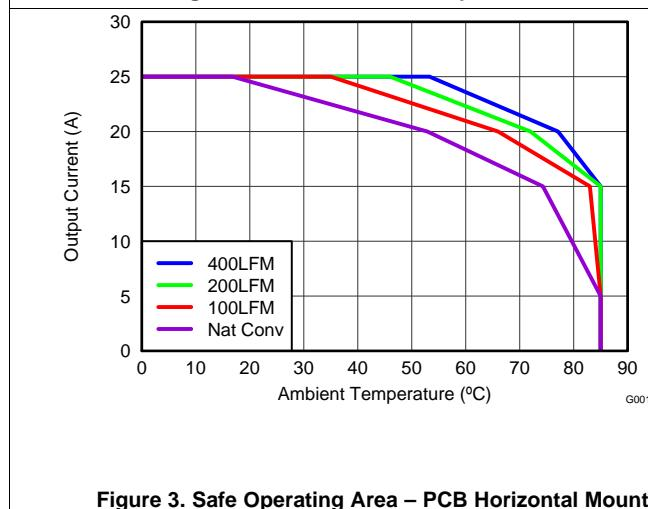

Figure 3. Safe Operating Area – PCB Horizontal Mount
(1) Specified by design
$T_J = 125^{\circ}\text{C}$, unless stated otherwise. The Typical Power Block System Characteristic curves Figure 3 and Figure 4 are based on measurements made on a PCB design with dimensions of 4.0 inches (W) \times 3.5 inches (L) \times 0.062 inch (H) and 6 copper layers of 1 oz. copper thickness. See Application and Implementation for detailed explanation.
$T_J = 125^\circ\text{C}$, unless stated otherwise. The Typical Power Block System Characteristic curves Figure 3 and Figure 4 are based on measurements made on a PCB design with dimensions of 4.0 inches (W) \times 3.5 inches (L) \times 0.062 inch (H) and 6 copper layers of 1 oz. copper thickness. See Application and Implementation for detailed explanation.
The SOA curves in the CSD87588N data sheet provide guidance on the temperature boundaries within an operating system by incorporating the thermal resistance and system power loss. Figure 3 to Figure 4 outline the temperature and airflow conditions required for a given load current. The area under the curve dictates the safe operating area. All the curves are based on measurements made on a PCB design with dimensions of 4 inches (W) \times 3.5 inches (L) \times 0.062 inch (T) and 6 copper layers of 1 oz. copper thickness.